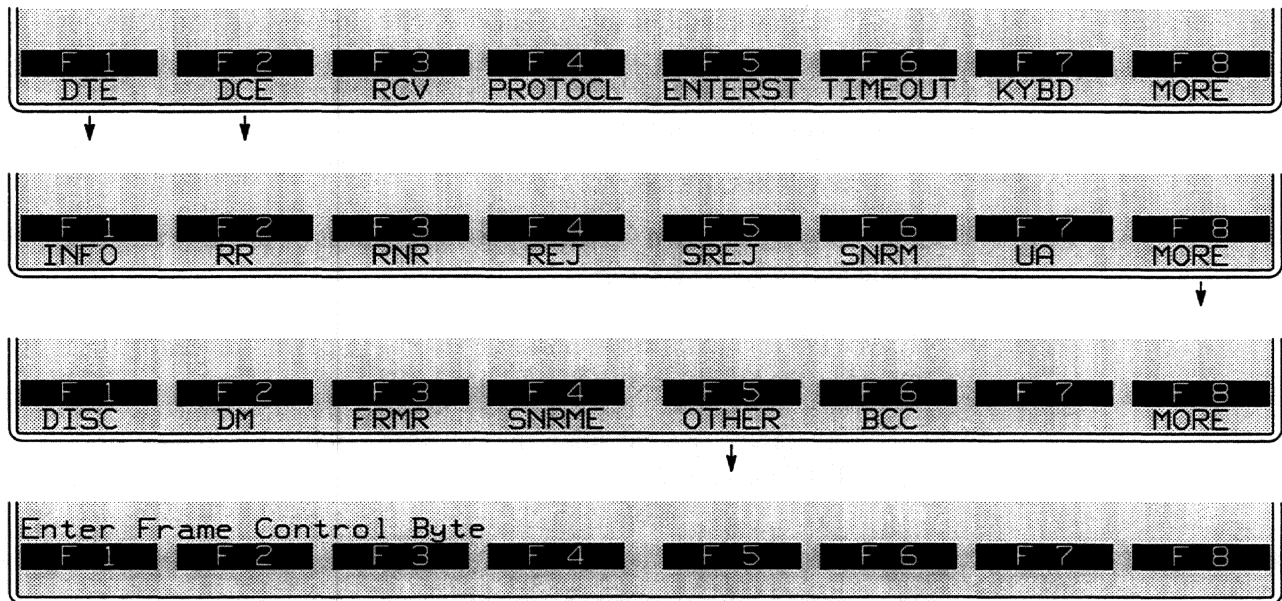

Figure 37-10 The hex value of any frame may be specified under *OTHER*.
4. *Other frames.* Any frame type may be entered as a hexadecimal value instead of by name. Press the softkey for OTHER. See Figure 37-10. Then enter the hex byte in the form of two alphanumerics. Here, for example, is a SABM (with the P–bit set) entered as a hexadecimal: